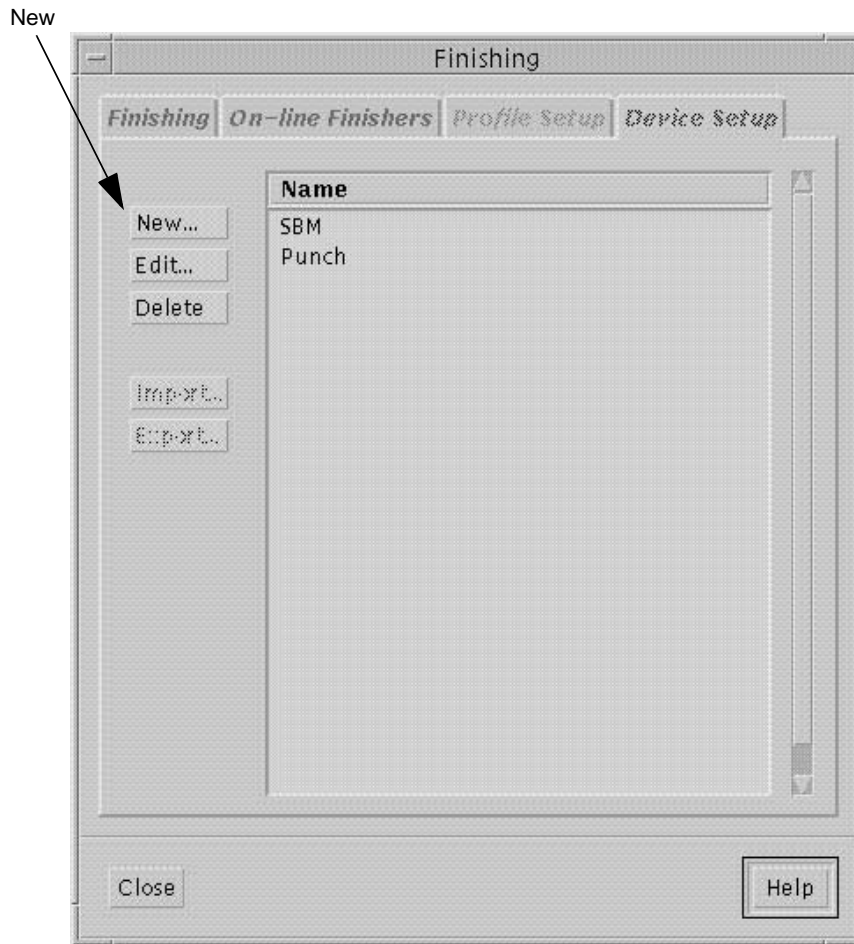

Figure 1-7: The Device Setup Tab screen
The Device Setup Tab screen will display, as shown in Figure 1-7.
- 4 Click on the **NEW** button, as shown in Figure 1-7.